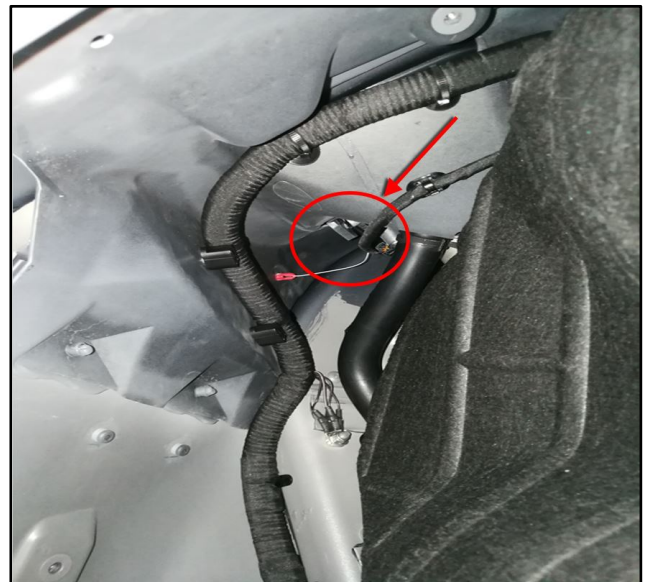

Figure 2
2. Remove the fuel filler latch from the clips that attach it to the vehicle body (refer to Figure 2).